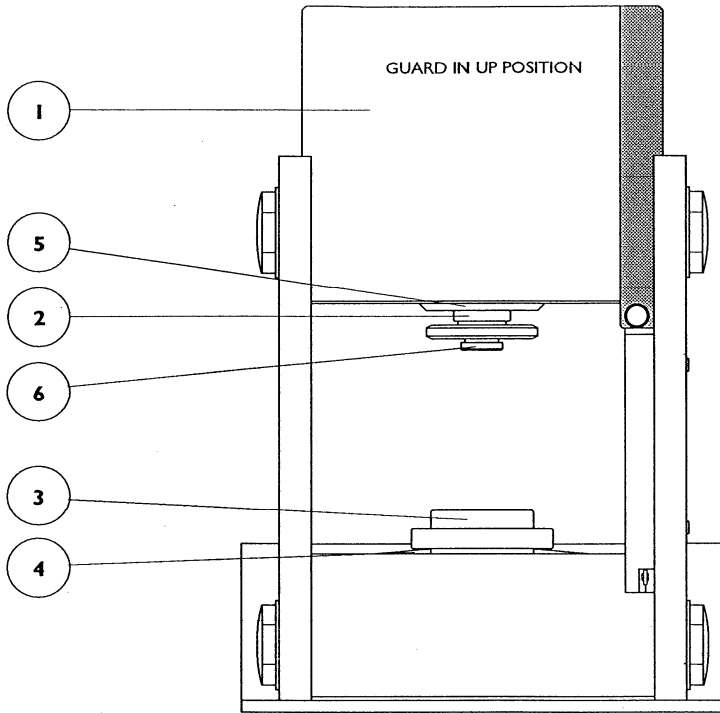

Fig. 2 Front View Of T-40 Autopress
Lift the guard (1) up (see diagram Fig. 2) and remove the packing material inside the press by unscrewing the top bolster lead screw (2) that is holding the packing in place. This packing is also holding firmly in place the aluminium cylinder test sample, the die locator (3) and the disc springs (4) during transportation. For use the aluminium cylinder test sample must be removed. The die locator (3) may be removed and relocated upside down within the disc springs (4) if wished. This allows for different height dies or samples to be used within the press.